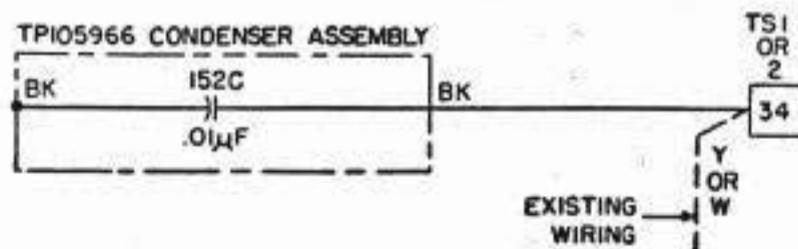

Fig. 3—15A, B and C TTY Bases
2.07 Connect the free lead from the condenser to terminal 34 (see Fig. 3).